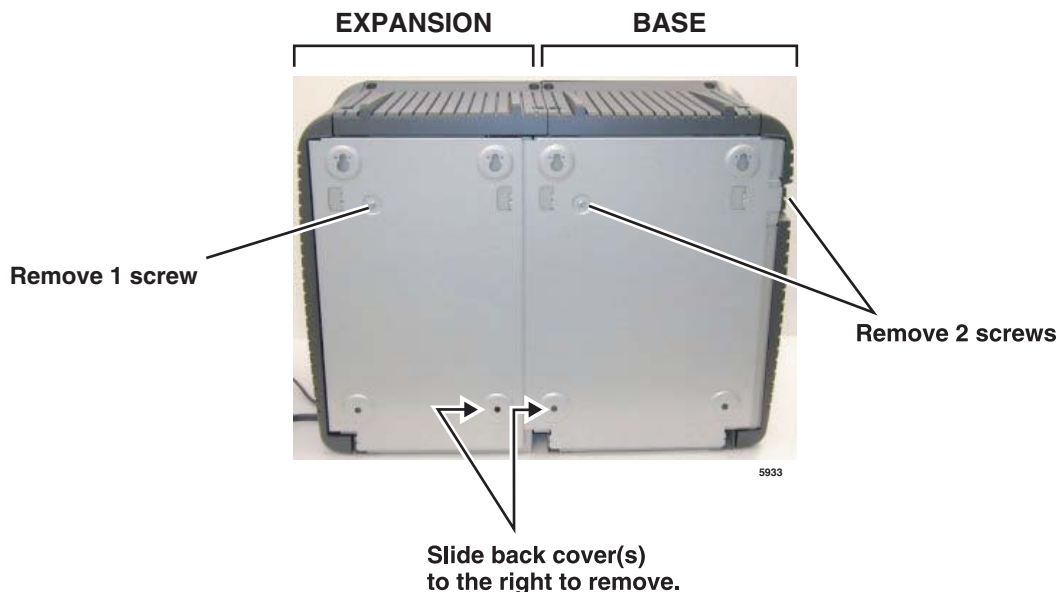

Figure 3-4 Base and Expansion Cabinet Back Covers
3. Remove the Expansion Cabinet back cover from the Expansion Cabinet (see Figure 3-4).